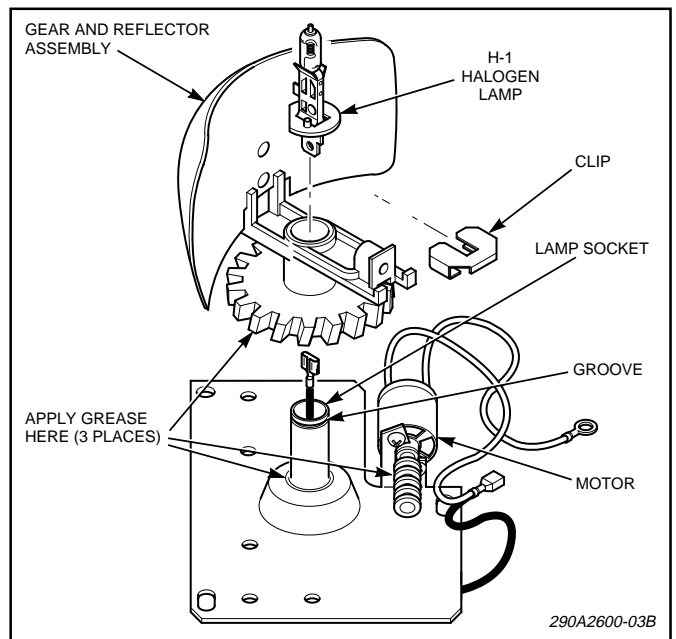

Figure 7.
All gears should be greased at least twice a year. Use medium consistency Dow Corning DC33 or equivalent type grease. Proceed as follows (see figure 7):
2. Lift-off reflector and worm gear. Lubricate with grease as shown in figure 7.